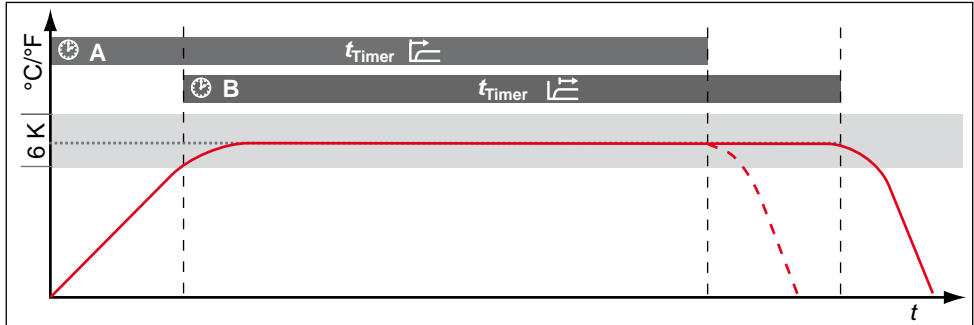

Fig. 27 Timer mode
Here, you can choose whether the digital backwards counter with target time setting (see page 29, timer) should be setpoint-dependent or not – this determines whether the timer should not start until a tolerance band of ± 3 K around the set temperature is reached (Fig. 27, B) or whether it should start immediately after activation (A).